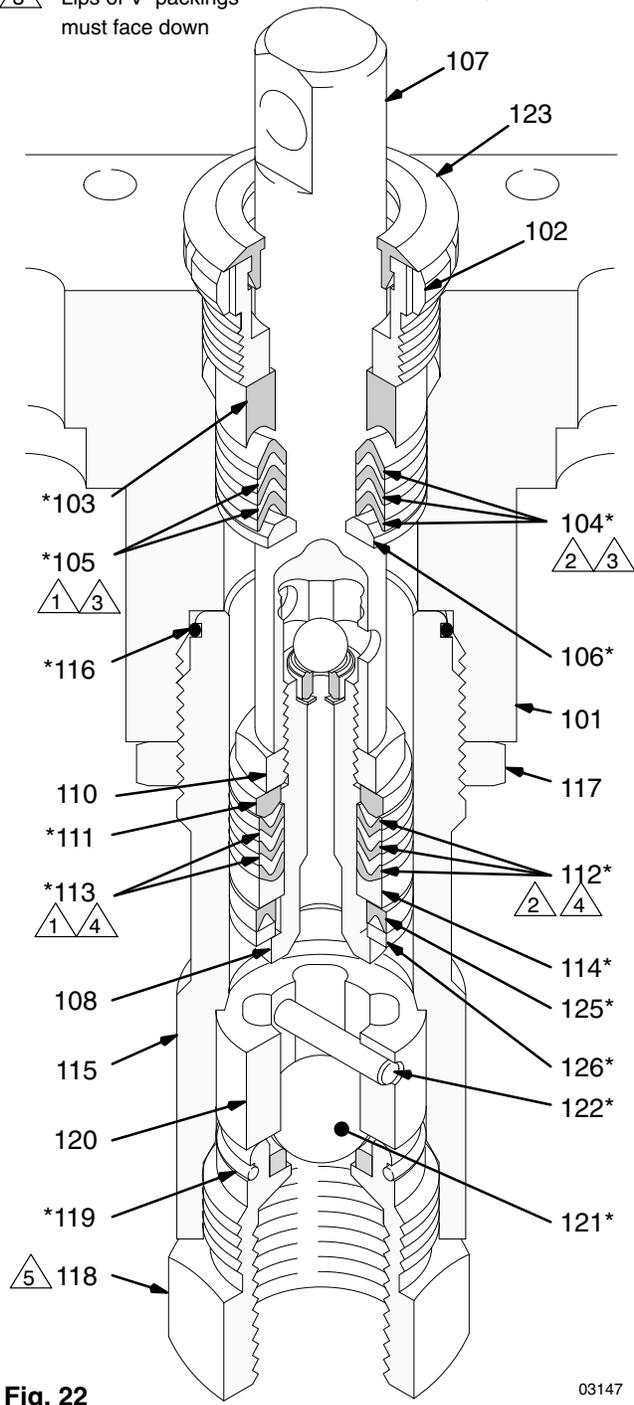

Fig. 22 03147
- Stack these parts one at a time into the top of the manifold (101): the male gland (106*), alternately three plastic packings (104*) with two leather packings (105*), and then the female gland (103*).
- Install the packing nut (102) and plug (123), but leave loose for now. See Fig. 22.
14. Place the ball guide (120), stop pin (122) and ball (121*) in the cylinder (115). Screw the intake valve into the cylinder and torque to 53 ft-lb (71 N.m). This will also properly torque the cylinder into the manifold. See Fig. 22.